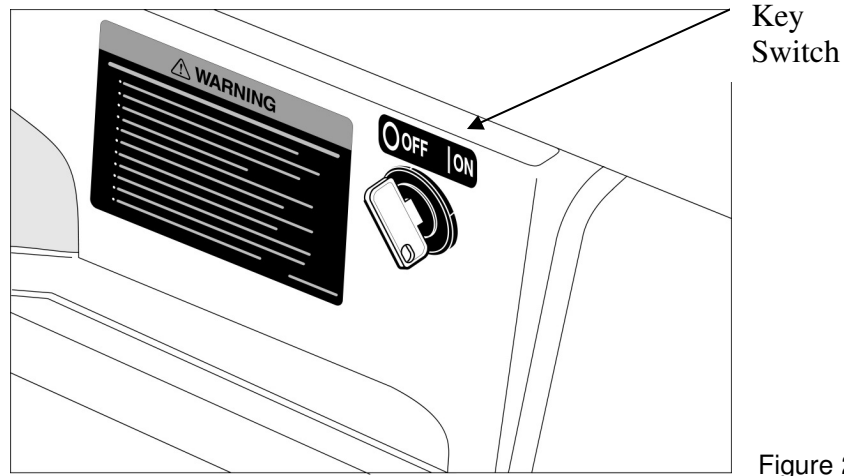

Figure 2
The key switch is mounted on the console (Figure 2). It has two (2) positions, OFF and ON, which are clearly labeled. See following NOTE.